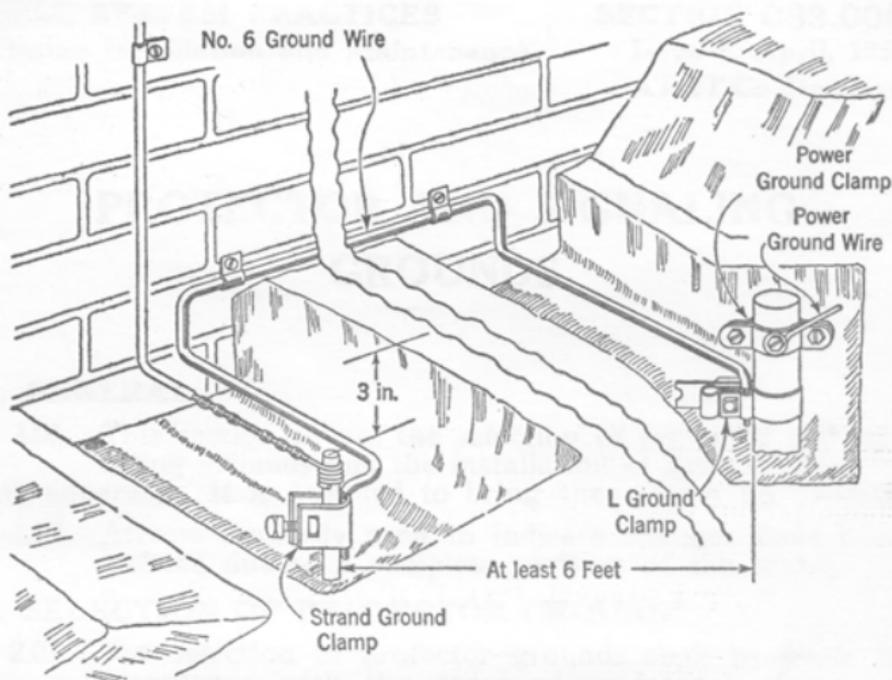

Fig. 4—Bonding Telephone and Power Service Ground Rods
5.05 Where local instructions so specify, bond the telephone ground rod to the power ground rod as shown in Fig. 4. The strand ground clamp or approved equivalent may be used at the telephone ground rod and an L ground clamp used at the power ground rod.
2.04 **A Telephone Ground Rod** is a third and last choice for a station protector ground, and shall be used only where none of the structures mentioned in 2.02 and 2.03 is available. If the installation involves an M1 carrier station bond the telephone and power ground rods together as covered in Fig. 4 of the section. Do not use ground rods with 109A, 116A or 117A Protectors.